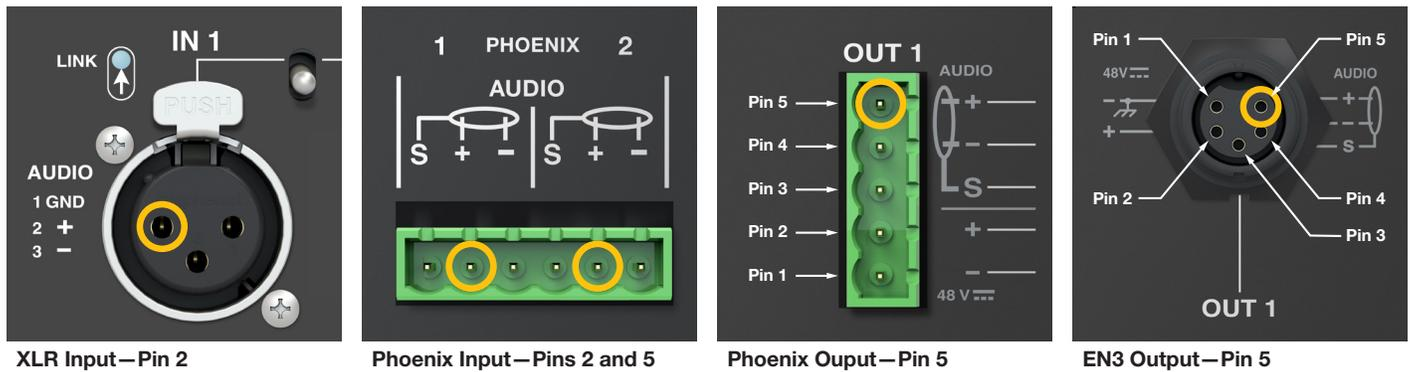

Figure 7: Audio (+) Locations on Power Supply Input and Output Connectors
1. **Audio (+)** of the **Input Connector** and **Audio (+)** of the **Output Connector** (Figure 7).